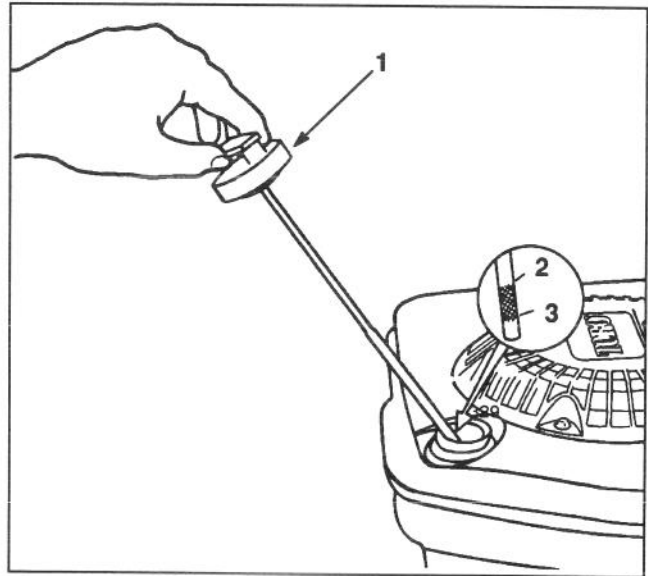

Figure 4
Before each use, ensure oil level is between FULL and ADD marks on dipstick (Fig. 4). Add oil if level is low.
3. Wipe dipstick and insert it into filler neck. Rotate cap clockwise 1/4 turn. Then remove dipstick and check level of oil on side of dipstick with FULL and ADD marks (Fig. 4). If level is low, add only enough oil to raise level to FULL mark on dipstick. **DO NOT FILL ABOVE FULL MARK BECAUSE ENGINE COULD BE DAMAGED WHEN STARTED. POUR OIL SLOWLY.**
1. **CHECK OIL LEVEL** — Maintain oil level between ADD and FULL marks as shown on dipstick (Fig. 4).